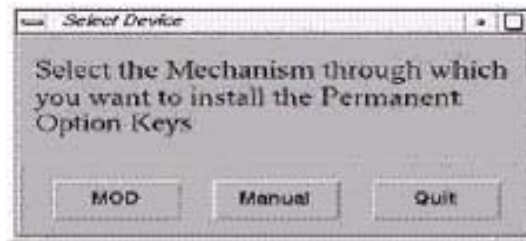

Figure 9-14 Select Device window
- 6.) Click PERMANENT. A Select Device (Figure 9-14) window opens. Select the mechanism through which you want to install the Permanent Option Keys.